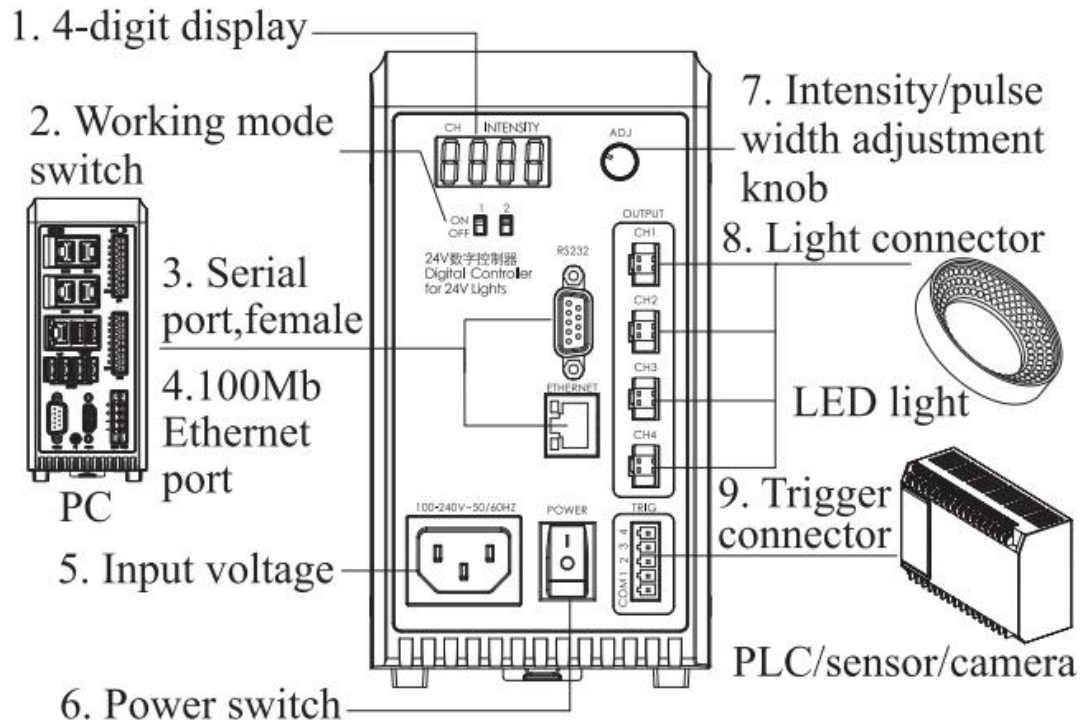

Figure 2.1 Panel Description Diagram
Step 1 Connect the LED light to the controller (refer to Figure 2.1)